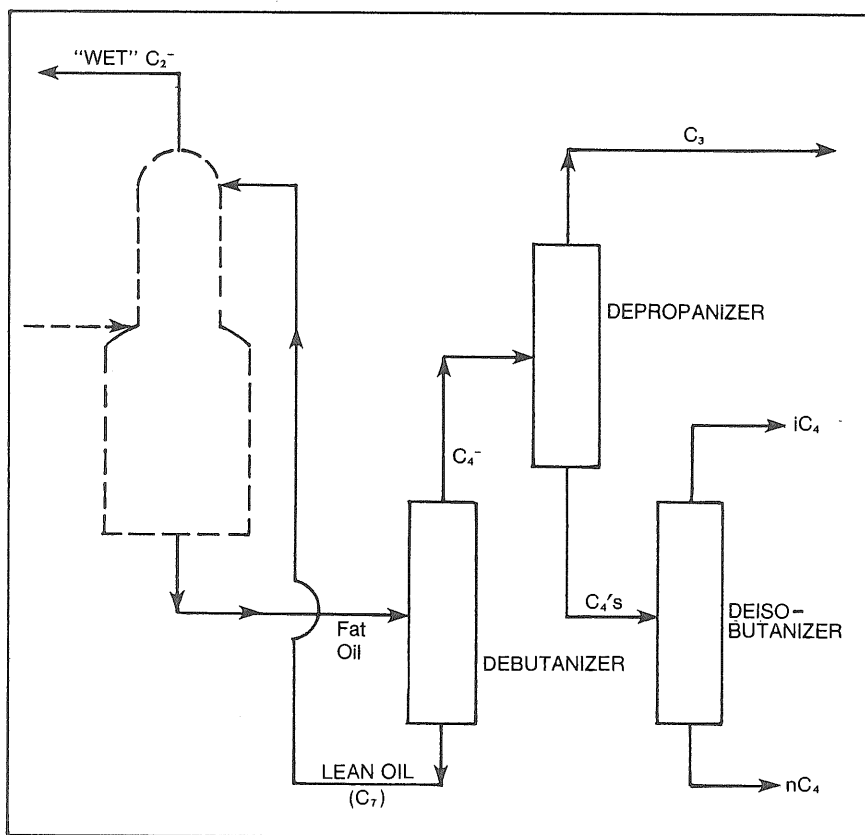

Fig. 7-3 —Debutanizing, Depropanizing, and Deisobutanizing
4. *Debutanizing.* The fat oil is charged to a column, called a debutanizer, which separates the butanes and propane from the naphtha. Because the boiling range of the naphtha starts about 180° and butane boils at about 32°F, the split is relatively easy (Fig. 7-3). It's certainly easier than splitting butane and propane from ethane in a distilling column. The liquid portion from the phase separator is charged to the debutanizer also.